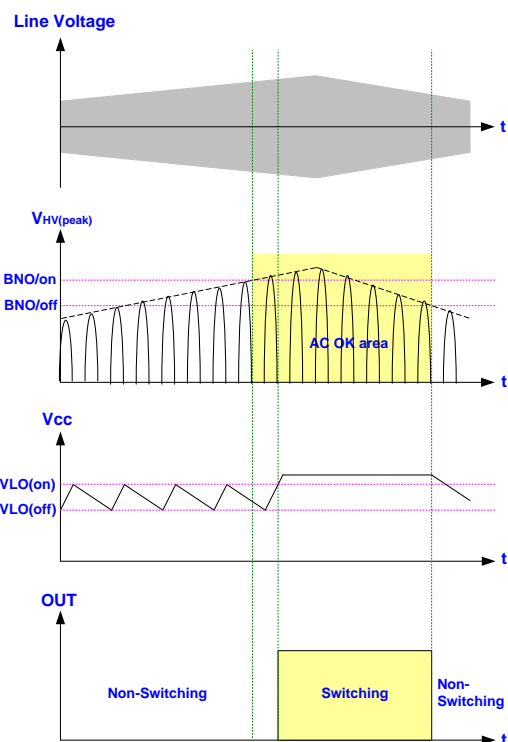

Fig. 10
The LD5762K features brown-in/out function on HV pin. As the built-in comparator detects the half wave rectify line voltage condition, it will shut off the controller to prevent from any damage. Fig. 10 shows the operation. When  $V_{HV} < HVBO$ , the gate output will remain off even when the VCC already reaches UVLO(ON). It therefore forces the VCC hiccup between UVLO(ON) and UVLO(OFF). Unless the line voltage rises over HVBI  $V_{AC}$ , the gate output will not start switching even as the next UVLO(ON) is tripped. A hysteresis is implemented to prevent the false-triggering during turn-on and turn-off.